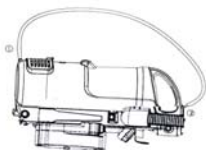

Fig. 6
- Attach the shoulder strap to the shoulder strap attachment point. (Fig. 6)